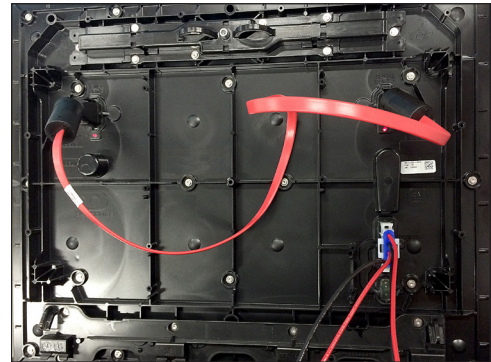

Figure 23: Module Self Test
1. Attach a signal cable to Port A and Port B on the module. Refer to **Figure 23**.